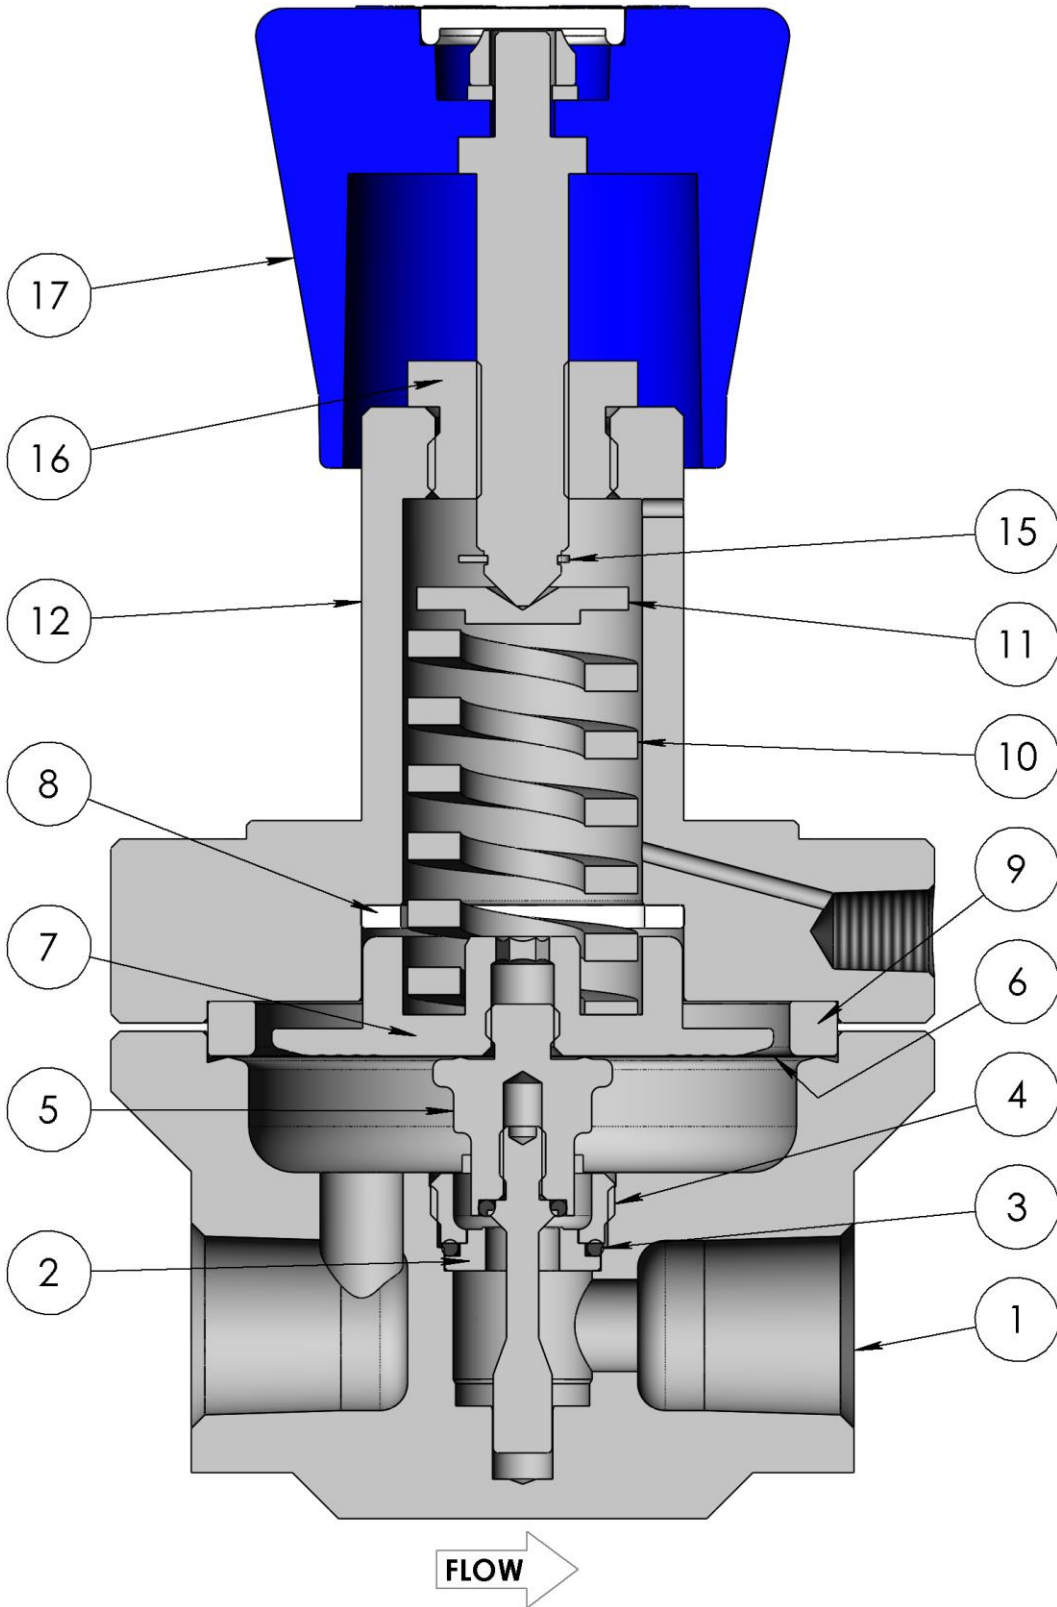

Fig 2
1. Place the seat O-ring (3) onto the seat (2) and insert into the body (1). Orient per Fig 2.
2. Lightly lubricate the seat retainer threads (4) and screw into the body using the seat retainer insertion tool. Torque to 11 lbf·ft (15 N·m).
3. Lightly lubricate the poppet threads (5). Fit the diaphragm (6) onto the poppet (5) then screw the poppet into the bottom spring guide (7). For PTFE lined diaphragms the PTFE side must face away from the spring guide.
4. Torque the poppet (5) to 7 lbf·ft (10 N·m).
5. Fit the sensing assembly into the body (1) through the seat (2).